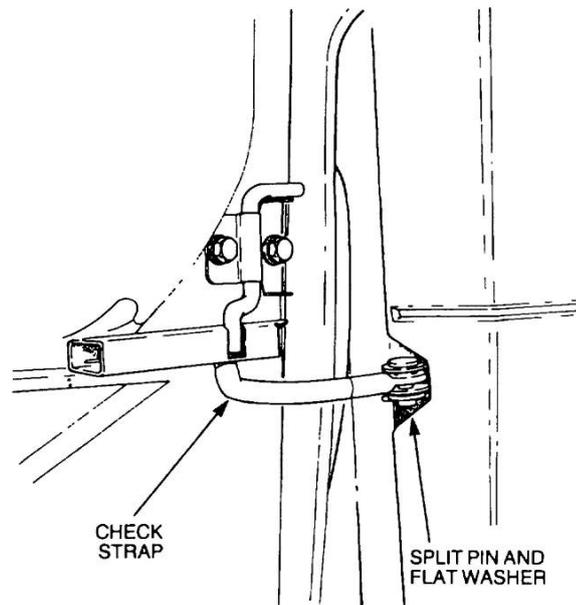

Figure 158 Removal of the Door
- a. Remove and discard the split pin securing the door check strap clevis pin. Remove the clevis pin and flat washer (Figure 158).